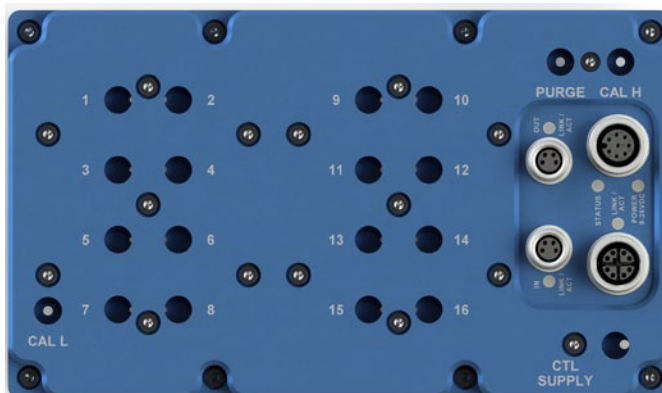

FIGURE 2.7 - DSA5000 ABSOLUTE, DUAL RANGE 16ADR TOP VIEW
The DSA5000 Dual Range Absolute 16ADR module can be used for absolute pressure measurement, offering eight (8) channels of one pressure range and eight (8) channels of a different pressure range. Like a standard absolute DSA5000, each group of eight (8) transducers share a common calibration valve. However, in absolute dual range modules the calibration valves are not tied together internally, and separate calibration ports are provided on the top of the module (no reference ports). They are labeled CAL H (high, channels 9-16) and CAL L (low, channels 1-8). Standard configuration will place the lower pressure range in the “low” side, channels 1-8. This can be altered at the customers request. Figure 2.7 depicts the top panel of a DSA5000 Dual Range Absolute 16ADR pressure module.